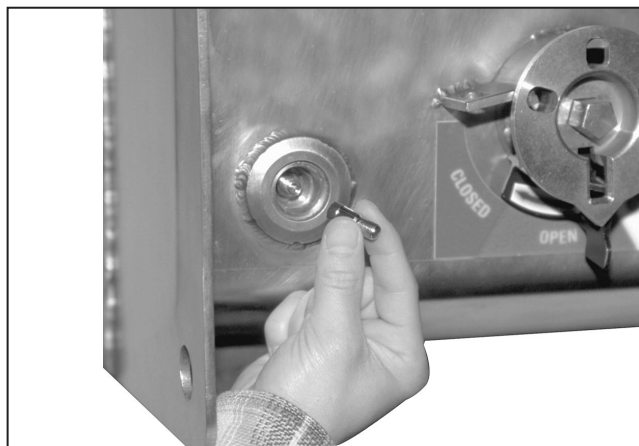

Figure 3. Install the valve extension onto the Schrader valve.
STEP 2. The Schrader fill valve is located under the fill port cover. Install the valve extension onto the Schrader valve. Tighten hand tight. Do not over tighten. See Figure 3.